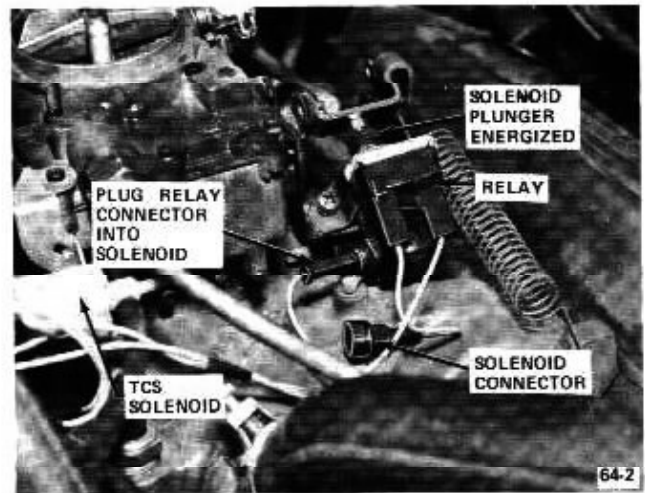

Figure 64-2 Throttle Control Solenoid Adjustment (V-8 Man. Trans.)
4. Disconnect relay single connector and plug into solenoid connector, as shown in Figure 64-2.